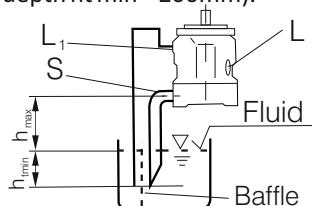

Fig.2
- If the minimum fluid level is below the pump mounting face pipe port "L" and "S" according to Fig.2. 1
Before installation fill the pump housing, keeping it in a horizontal position. For mounting above reservoir see Fig.2.